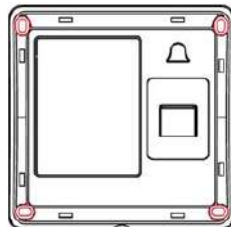

Figure 5
2.1.4 Fit the device to the wall, screw into the wall from the corresponding position (Figure 5);